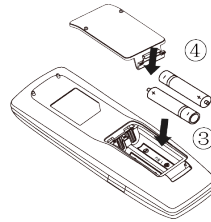

Fig.2
(3) Place two 7# (AAA 1.5V) dry batteries, and make sure the position of “+” polar and “-” polar is correct (as shown in Fig 2③).
(4) Reinstall the cover (as shown in Fig 2④).